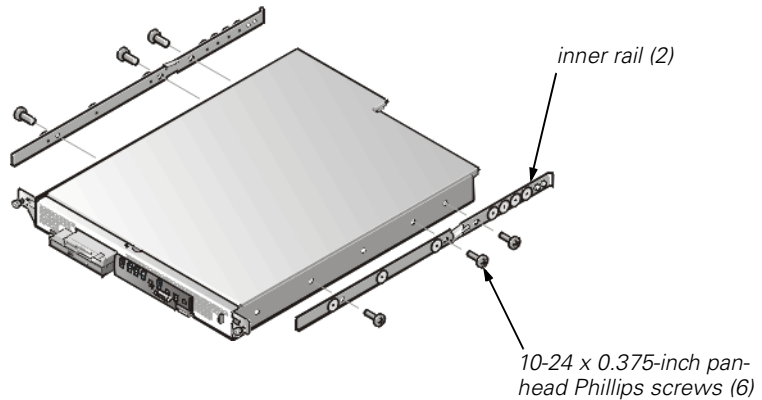

Figure 1-18. Installing the Inner Rails
1. Place the system on its side (see Figure 1-18) on a piece of foam or cardboard (to prevent damage to the system) while you install the inner rails to the sides of the system.
2. Secure each inner rail to the side of the chassis with three 10-24 x 0.375-inch pan-head Phillips screws (see Figure 1-18).